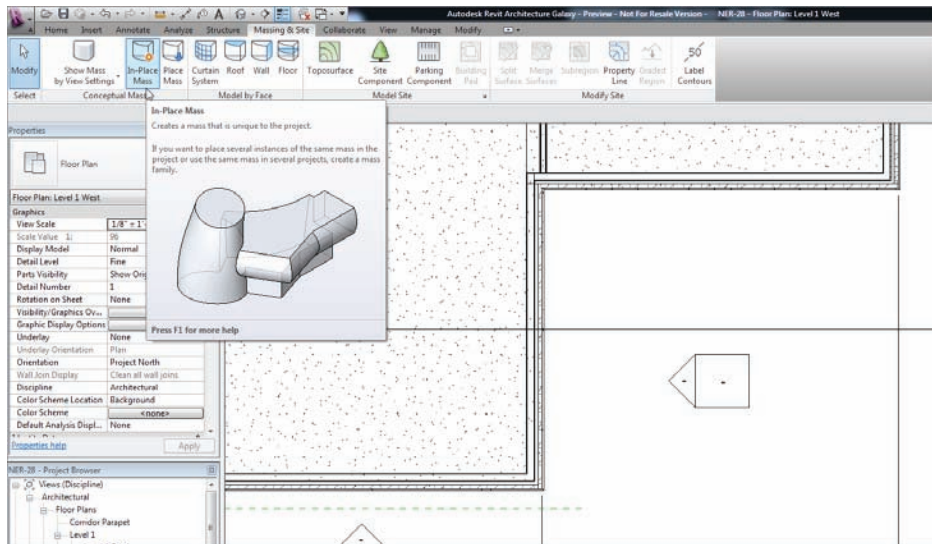

FIGURE 16.38 Massing up your model
2. Zoom in on the area shown in Figure 16.38.
3. On the Massing And Site tab, click the In-Place Mass button (see Figure 16.38). Revit may throw a warning stating it's turning on the mass visibility. This is good, so pick Close.